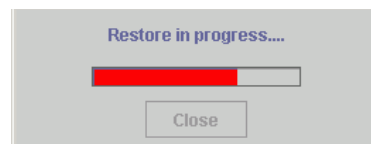

Figure 4-66 Restore Dialog Box
7. Click *Yes*. A *Restore* dialog box displays, indicating the restore operation is in progress (Figure 4-66).